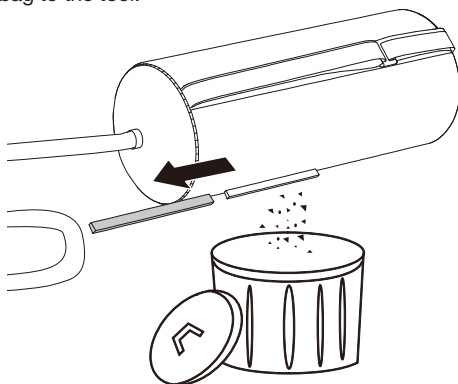

Figure 4
4. EMPTYING THE DUST BAG (SEE FIG. 4)